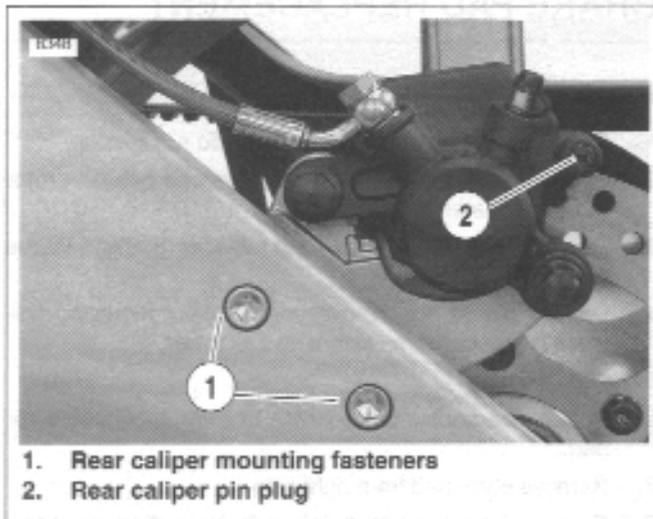

Figure 1-14. Rear Brake Caliper
1. See Figure 1-14. Remove rear caliper pin plug (2) and loosen pin.
2. Remove two mounting fasteners (1) and brake caliper carrier assembly from rotor.
5. See Figure 1-14. Install pin (2) making sure pin engages hole on both pads.
6. Install brake carrier with two mounting fasteners (2). Tighten fasteners to 24-26 ft-lbs (33-35 Nm).
8. Install pin plug (2). Tighten plug to 18-25 **in-lbs** (2-3 Nm).